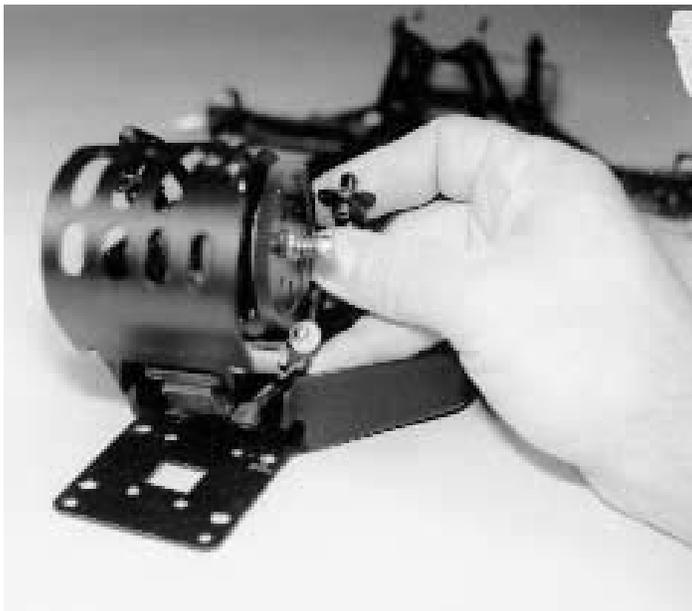
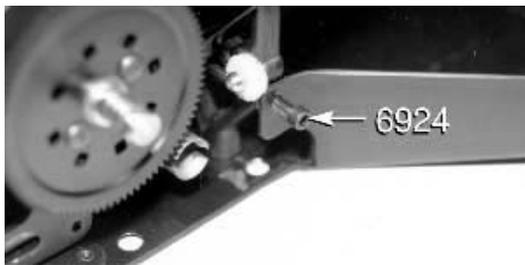

Fig. 90
Fig. 91
□ **Figs. 90, 91, & 92** Now we can secure the rear end assembly to the chassis. From bag #7-4 remove two #6292 4-40 x 3/8" FHSScrews and two #6924 4-40 x 3/8" SHCScrews. Look at the bottom of the transmission case. You will see that there is a raised square molded into the bottom of the case. Now look at the chassis and you will see that there is a matching square hole at the back that matches the one on the transmission. Place the transmission and bulkhead assembly on top of the rear of the chassis. Line up the square on the bottom of the transmission case with the square hole in the chassis. The bulkhead will be to the front and the motor guard will be the back of the chassis. This will place the rear bulkhead between the two tabs on the raised sides of the chassis. Take the two #6924 SHScrews and secure the rear bulkhead to the sides of the chassis as shown in fig. 91. Do not tighten the screws all the way just yet. Now turn the chassis upside down and secure the bottom of the chassis to the rear bulkhead using the #6292 FHSScrews as shown in fig. 92. Again leave these loose for now. We have now secured the rear bulkhead to the chassis.
that we have the transmission and motor guard secured we can now go back and tighten all of the screws in figs. 91 & 92.